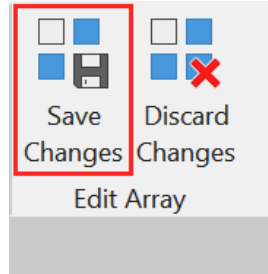

Figure 6.25: The Save Changes icon on the Edit Array panel
6. As you edit the original saw tooth, you will see the other saw teeth in the array update to suit. Once the editing is complete, click the **Save Changes** icon in the **Edit Array** panel, now displayed on the right-hand end of the **Home** tab on the ribbon. The **Save Changes** icon is shown in *Figure 6.25*.